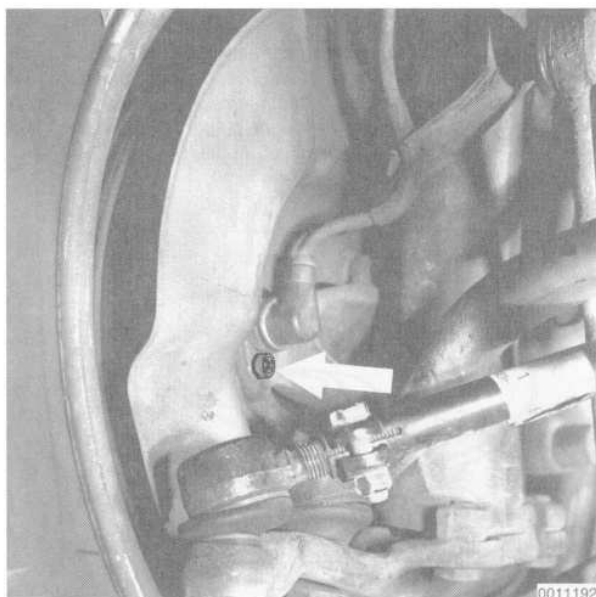

Fig. 3. ABS pulse sensor mounting bolt (arrow).
3. Remove the ABS pulse sensor. See Fig. 3.